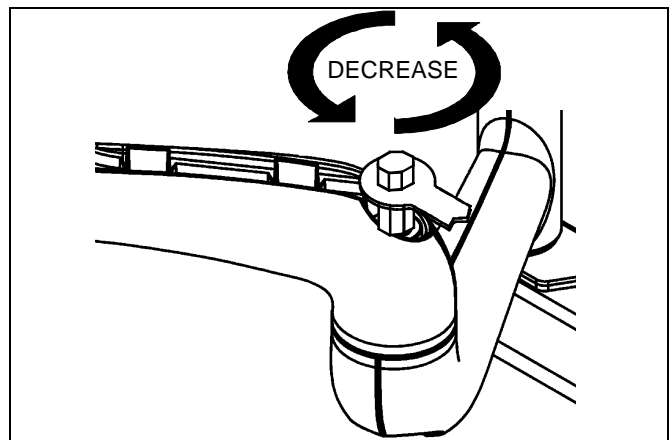
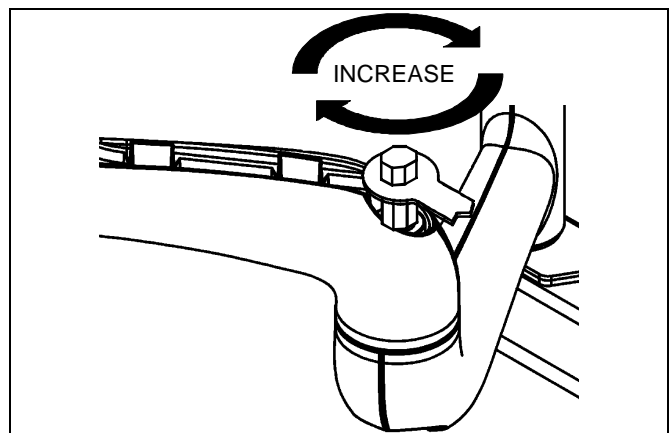

Figure 12
Figure 13
4. Using the adjustment wrench (D), turn adjustment bar (C) clockwise to increase swing arm tension or counterclockwise to reduce swing arm tension. (Small adjustments of 1/8 turn or less are typically all that is required to achieve desired tension.) (See Figure 12) and (See Figure 13)